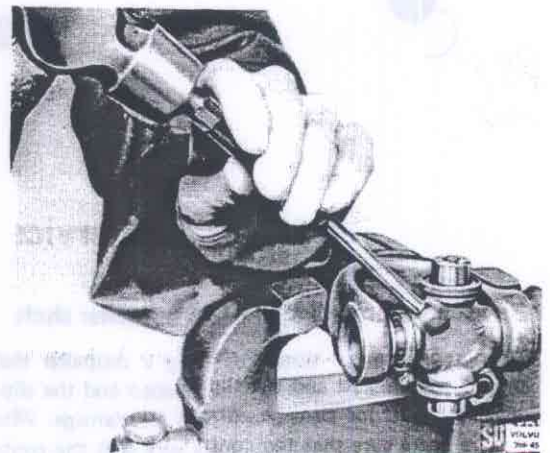

Fig. 45-7. Driving out the bearing
3. With the help of a drift drive the spider as far as possible in one direction, see Fig. 45-7.